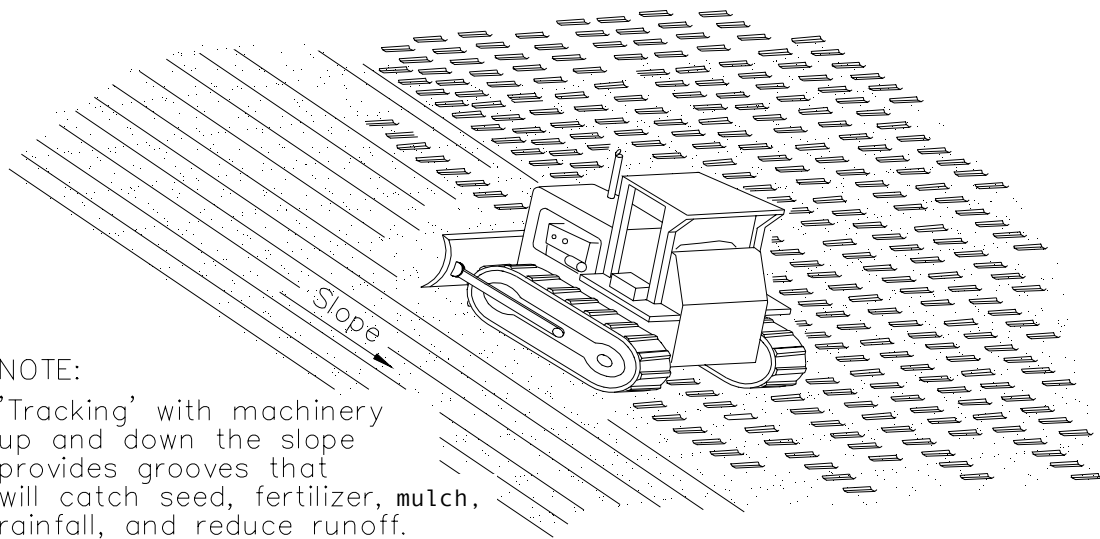

FIGURE 3
- Limit roughening with tracked machinery to soils with a sandy textural component to avoid undue compaction of the soil surface. See Figure 3.